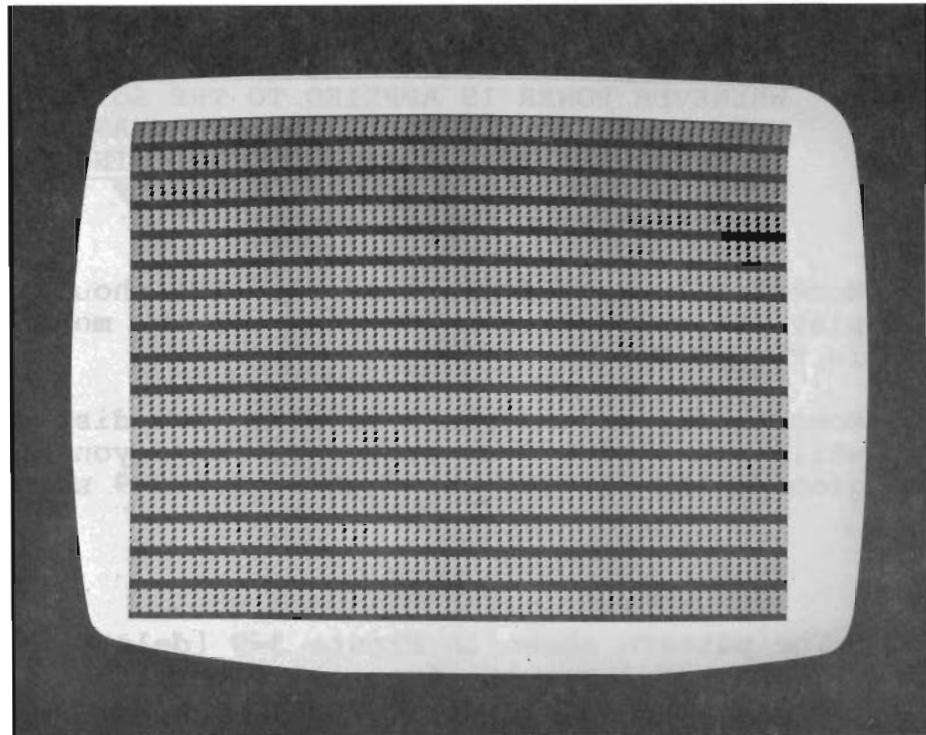

Figure 3-9. CPU Functional Test No. 1 display,
- ( ) Momentarily ground pin 1 of U2. You should see a full display (64 characters x 16 lines) on the monitor as shown in Figure 3-9.
- ( ) Momentarily ground pin 2 of U75. The display should blank while pin 2 of U75 is grounded. When you remove the ground, the display shown in Figure 3-9 should appear.
The pattern shown in Figure 3-9 (delete characters) results from all bits of the DIO Bus being high. If you do not see the delete characters, one or more bits of the DIO bus are low. Consult the MCM6575 or MCM6574 pattern, as appropriate, in Section VIII of this manual to determine which bits are low.